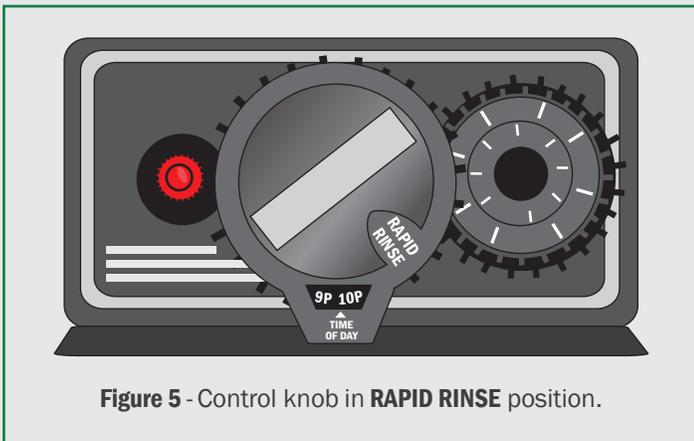

Figure 5 - Control knob in **RAPID RINSE** position.
4. Rotate the control knob at the top of the tank **SLOWLY** clockwise to **RAPID RINSE** (between 4 and 5 o'clock). Stop and leave it on **RAPID RINSE** for 2 to 3 minutes. Water will be running out the rinse line during this time. [See Figure 5]